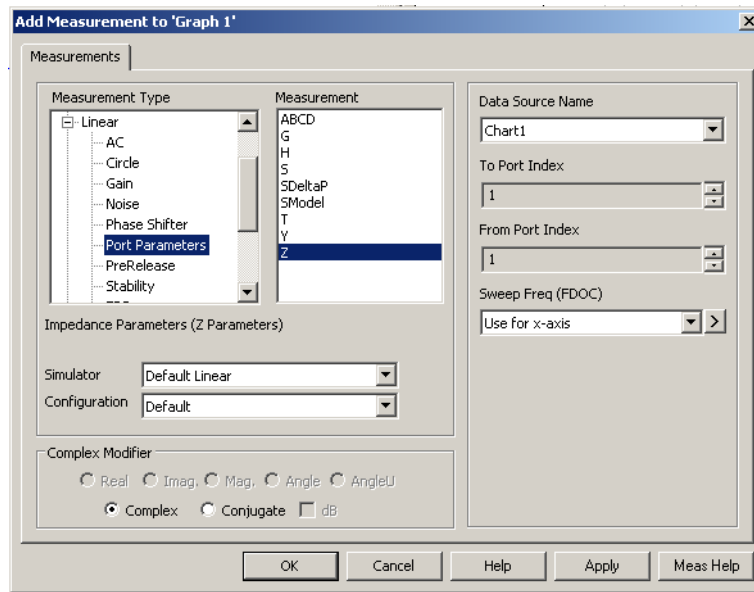

Figure 3.4: Chart 1 : Add Measurement Dialogue Box (Input Impedance)
- Change your measurement dialogue box to match figure 3.4.